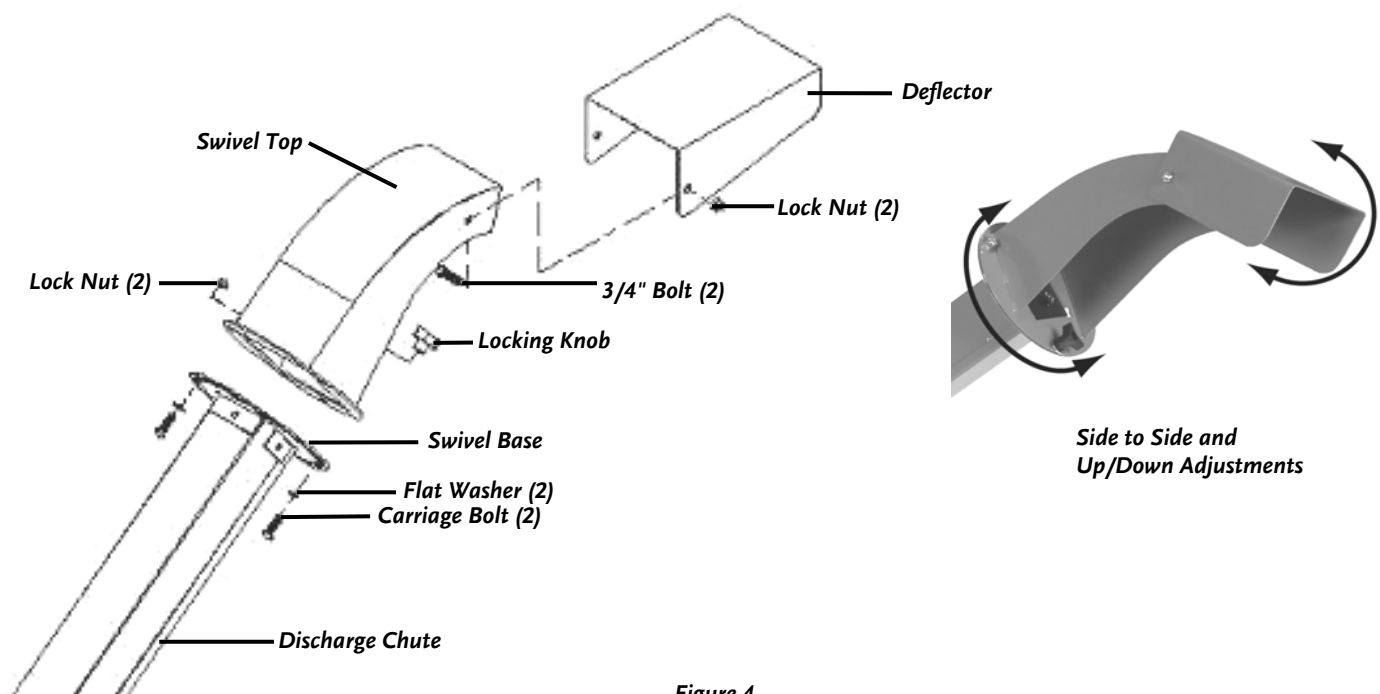

Figure 4
1. Hold the Swivel Top (**Figure 4**) in place on the Discharge Chute and insert two (2) of the 5/16"-18 x 3/4" Carriage Bolts through two (2) 3/8" Flat Washers and then through both the top two (2) slots of the Swivel Base on the Discharge Chute, and the top two (2) holes on the Swivel Top. Securely tighten with two (2) 5/16"-18 Lock Nuts.
2. Insert a 5/16"-18 X 3/4" Carriage Bolt through a 3/8" Flat Washer and then through the lower slot, and hole of the Swivel Top and secure with the Locking Knob (**Figure 4**).
3. Hold the Deflector in place on the Swivel Top and insert two (2) of the 5/16"-18 x 3/4" Bolts, from the inside out, through Swivel Top, and then through the Deflector (**Figure 4**).
4. Securely tighten the Deflector with two (2) 5/16"-18 Lock Nuts.